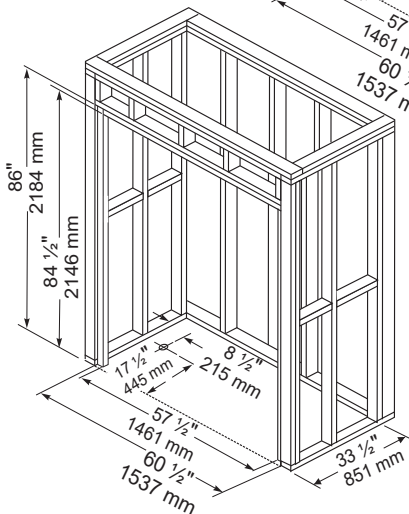

FIGURE 1 - LAYOUT DIMENSIONS
- The Tub Shower is to fit into formed recess as shown in Figure 1 and 2.
- **Framing:** Inside dimension of the studded alcove are to be as specified in Figure 1.
- Build solid framing to the dimensions in Figure 1.